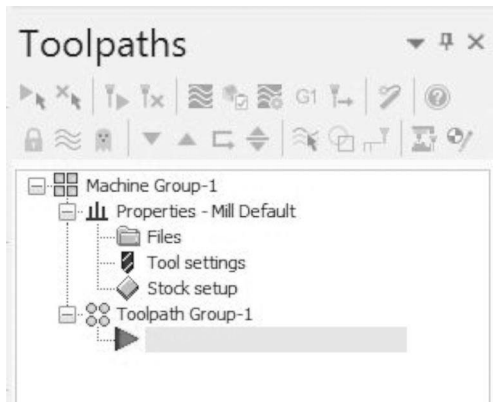
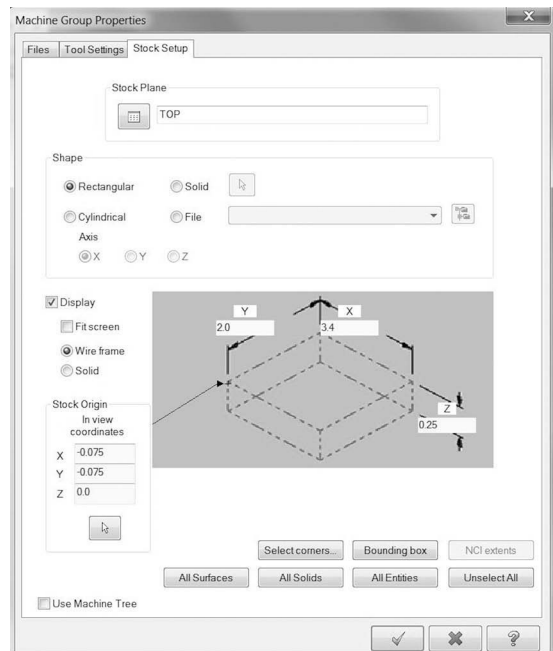

Figure 5-13 Machine Group Properties
Figure 5-14 Machine Group Properties, Stock Setup
- To access the Stock setup dialog, left-click on the plus sign next to Properties—Mill Default in the Operations Manager, as shown in Figure 5-13. Then left-click on Stock setup to access the dialog displayed in Figure 5-14.
Explanations are given below for each item in the Machine Group Properties dialog in Figure 5-14 that will be used in this example.